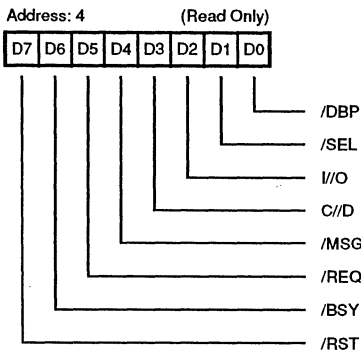

Figure 24. Current SCSI Bus Status Register
**Current SCSI Bus Status Register. Address 4(Read Only).** The Current SCSI Bus Register is a read-only register which is used to monitor seven SCSI Bus control signals, plus the Data Bus parity bit. For example, an Initiator device can use this register to determine the current bus phase and to poll /REQ for pending data transfers. This register may also be used to determine why a particular interrupt occurred. Figure 24 describes the Current SCSI Bus Status Register.